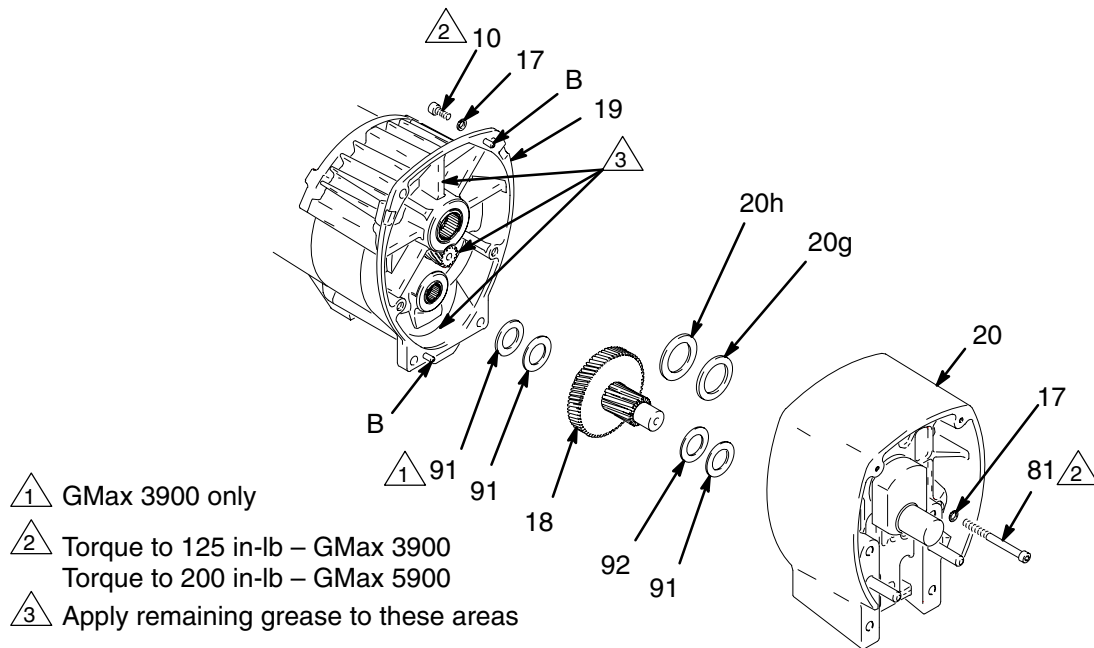

Fig. 3
2. Fig. 3. Remove bearing housing. Do 1. through 8. of **Bearing Housing and Connecting Rod** procedure on page 8.
4. Fig. 3. Remove two screws (81) and lockwashers (17).
5. Remove four screws (10) and lockwashers (17) from pinion housing (19).
6. Lightly tap around drive housing (20) to loosen drive housing. Pull drive housing straight off pinion housing. Be prepared to support gear cluster (18), which may also come out.
6. Fig. 3. Install bearing housing. Do 1. through 6. of **Bearing Housing and Connecting Rod** procedure on page 8.